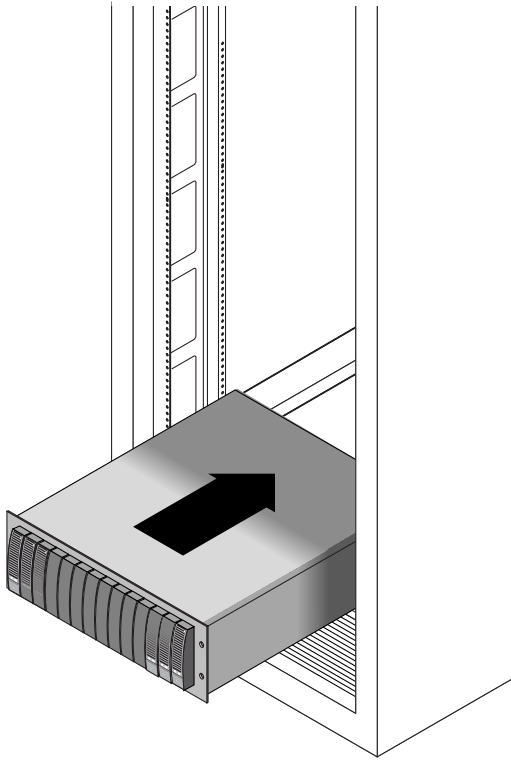

FIGURE 2-15 Sliding the Array Into the Cabinet
3. Carefully slide the array into the cabinet until the front flanges of the array touch the vertical face of the cabinet (FIGURE 2-15).